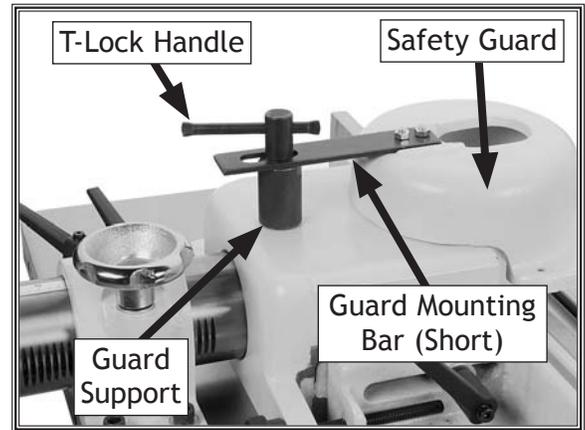

Figure 17. Safety guard components.
1. Thread and hand-tighten the guard support into the threaded hole on top of the fence assembly (see **Figure 17**).
2. From underneath the safety guard, insert two 1/4"-20 x 3/4" flat head screws into the holes that are in the center of the guard, then secure the shorter guard mounting bar with two 1/4"-20 hex nuts, as shown in **Figure 17**.